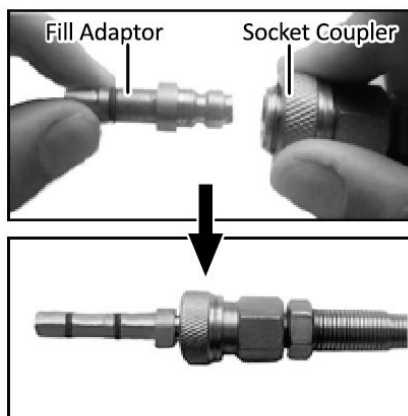

FIG 3 FIT FILL ADAPTOR
- Follow FIG 3 to fit the fill adaptor.